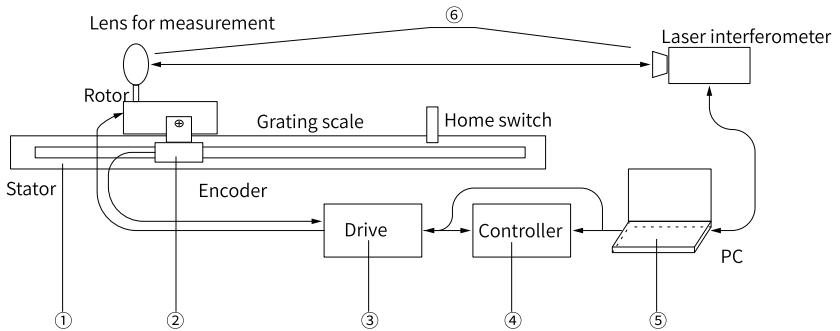

Figure 6-8 Schematic diagram of acquisition of accuracy compensation table
1. Acquire the accuracy compensation data table, as shown in "Figure 6-8" on page 387. Linear motor ①, encoder ②, drive ③, controller ④, computer ⑤, laser interferometer and lens ⑥ are involved.